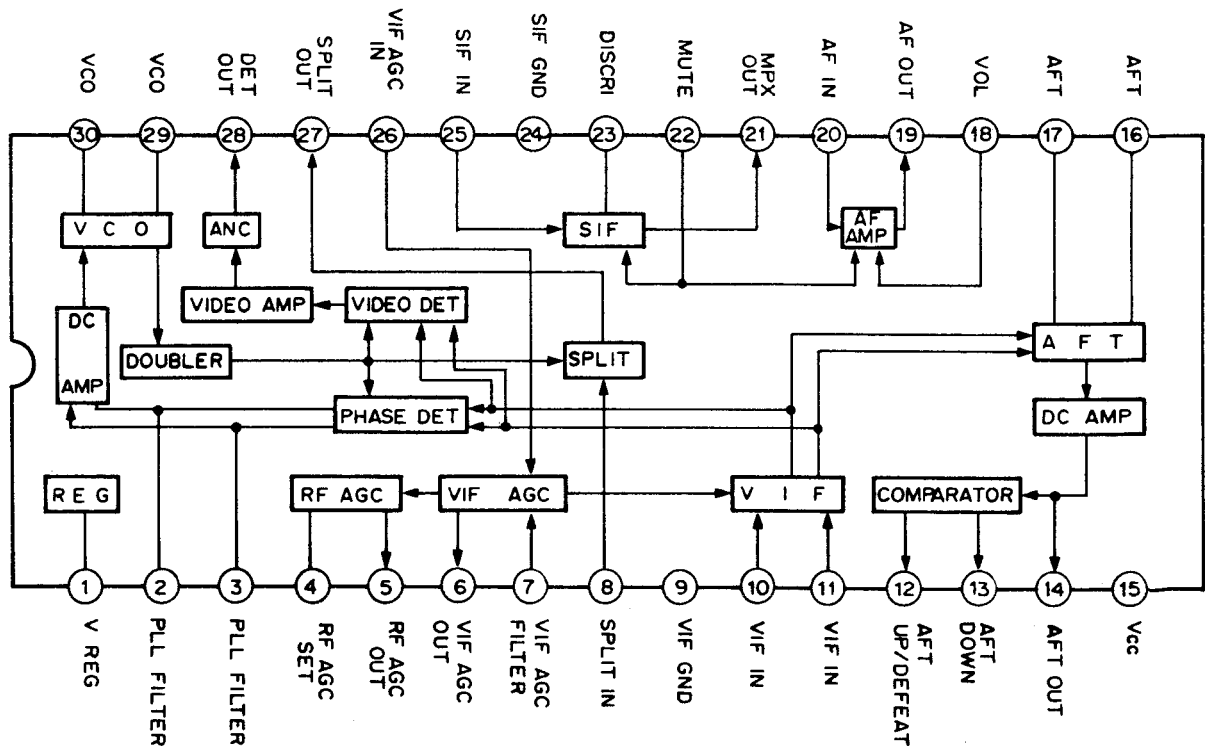

Fig. 24 IC202 (CXA1110BS) Terminal Connections
4. Picture IF and Sound IF IC202 (Fig. 24, 25)